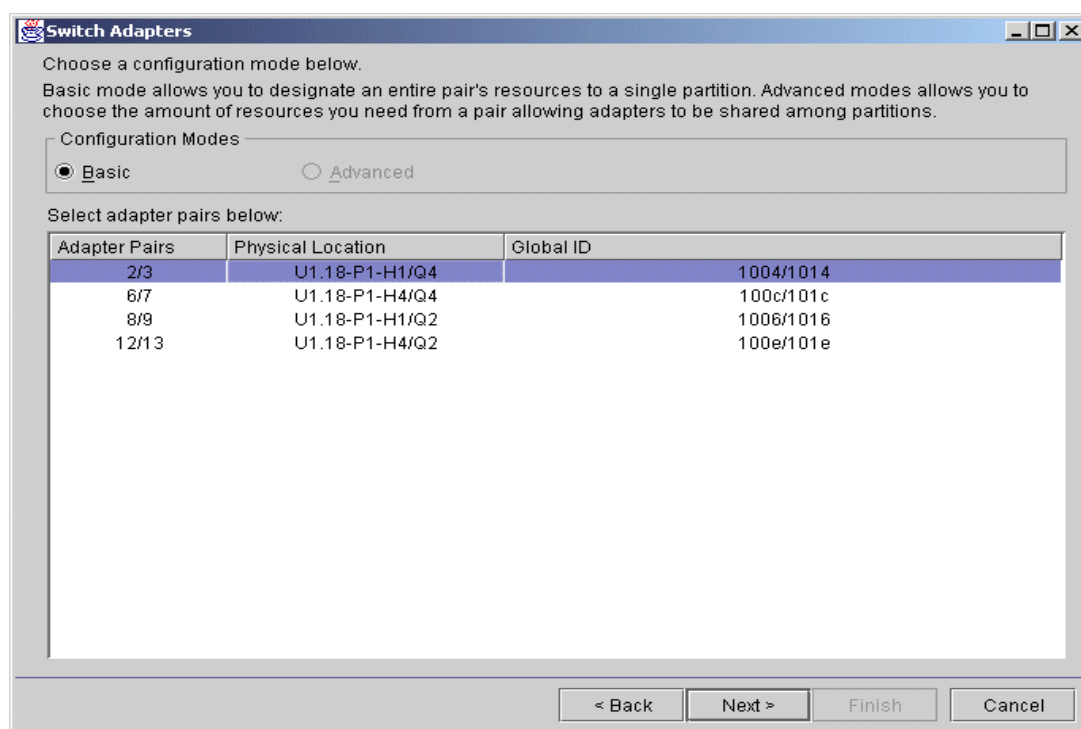

Figure 4-8 Assign the SNI interfaces to LPAR
4. Select the CPU, Memory and I/O resources for the new partition. After providing the CPU and memory resources, you are requested to select the SNI interfaces for your partition, as shown in Figure 4-8.
- Q2 and Q4 in Figure 4-8 refer to the two link pairs of a 4-link SNI adapter. The ports of an SNI adapter can be allocated to partitions only in pairs. A link pair cannot be split between partitions.